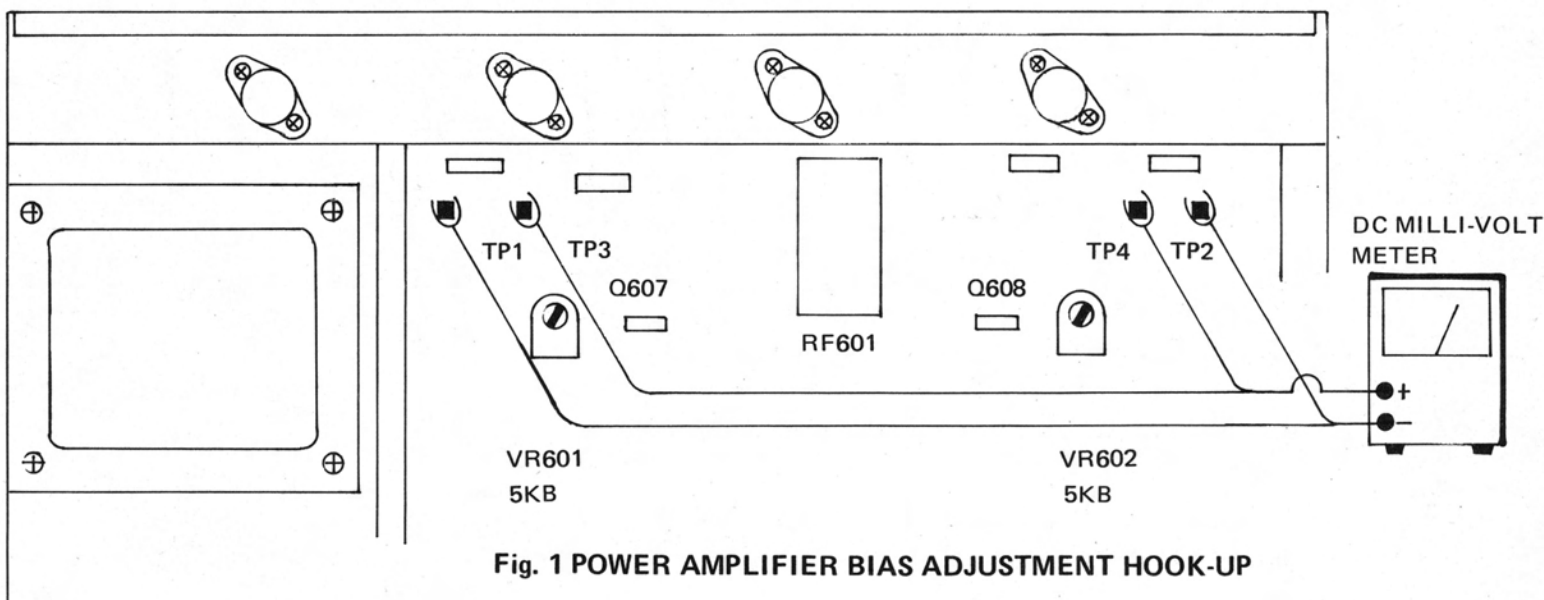

Fig. 1 POWER AMPLIFIER BIAS ADJUSTMENT HOOK-UP
2. Adjust the potentiometer VR601 to obtain a 6.6mV reading on the DC milli-volt meter (see Fig 1)